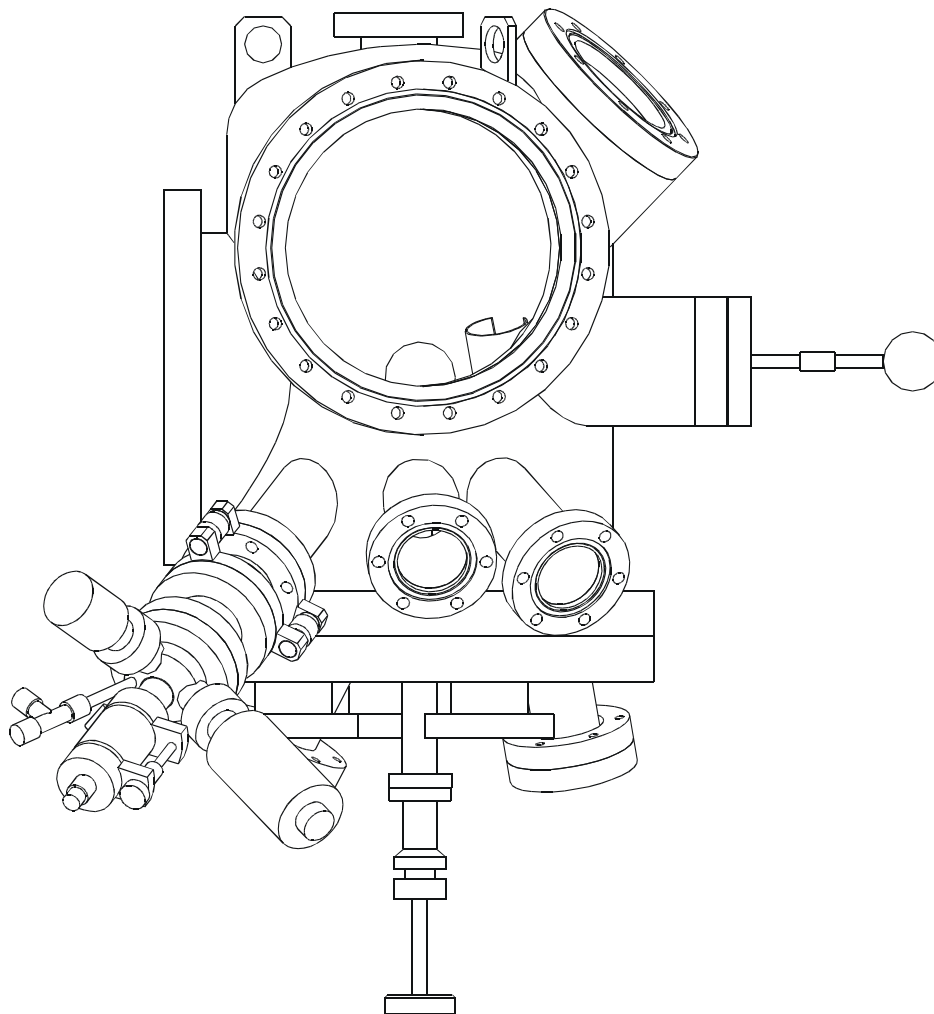

Figure 39. VT STM XA chamber with EFM 3 mounted.
- Connect the EFM 3 with 46 mm port aligner and 50 mm straight connector to the CF 35 flange as indicated in figure 39 on page 85.